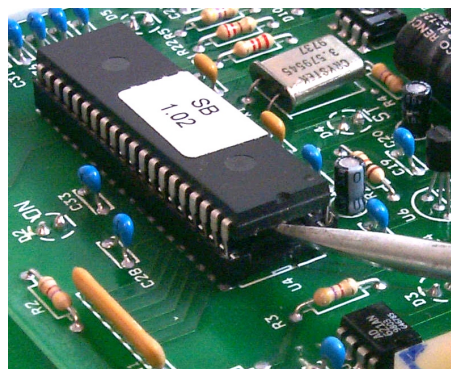

Fig. 8, 9: Gently pry the old chip out by lifting on alternate sides of the socket with a small screwdriver.
- Gently rock the E-prom chip from its setting by prying with a small screwdriver blade on one side of the chip and then the other. Do not pull the chip out from one side. This can damage the chip. Fig. 8, 9.